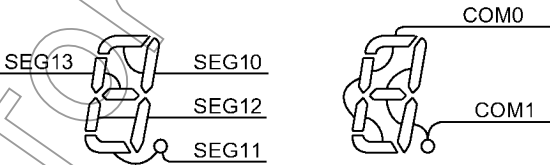

Figure 15-6 Example of COM, SEG Pin Connection
Example: (2) Table 15-6 shows an example of display data which are displayed using 1/2 duty LCD in the same way as Table 15-5. The connection between pins COM and SEG are the same as shown in Figure 15-6.